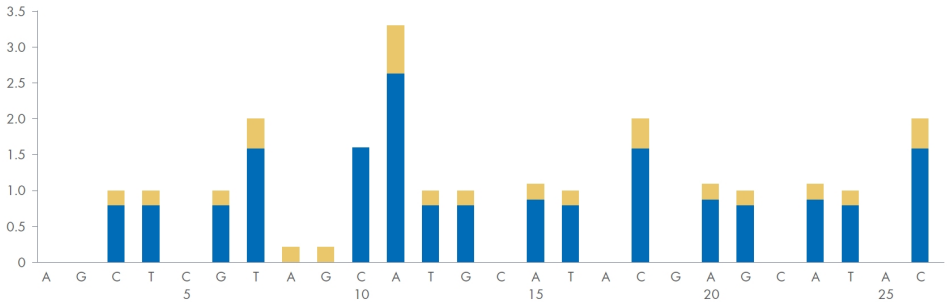

Figure 10. Schematic histogram for mutation 1405\_1406GG>TC in codon 469 (mutation frequency: 20%).
**Note:** The complex mutations in *BRAF* codon 600 and codons 464–469 cannot be analyzed using the PyroMark AQ analysis. As a result, mutation frequencies cannot be reliably calculated. Even if a value is displayed, the true mutation frequency must be determined manually (see Table 4). If a complex mutation is suspected, compare the pyrogram with the histograms presented in Figure 6–Figure 10 to enable accurate identification of the corresponding mutation.